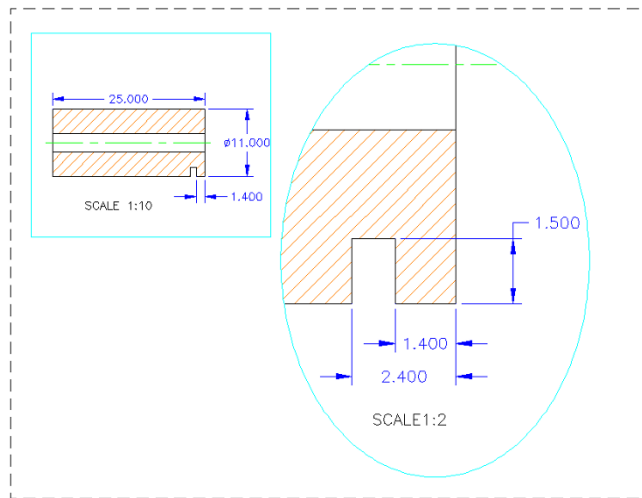

FIGURE 14-5:
Here's the easy way to create a multiscale drawing, such as the one in Figure 14-5:
- 3. Apply the three dimensions that show in the Scale 1:10 view in Figure 14-5, using an annotative dimension style.**